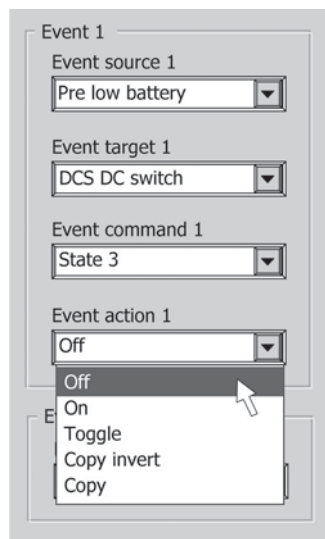

Figure 17
- 6 Finally select the *Event action*, which is the action that should take place (Example: Go off) (figure 17).